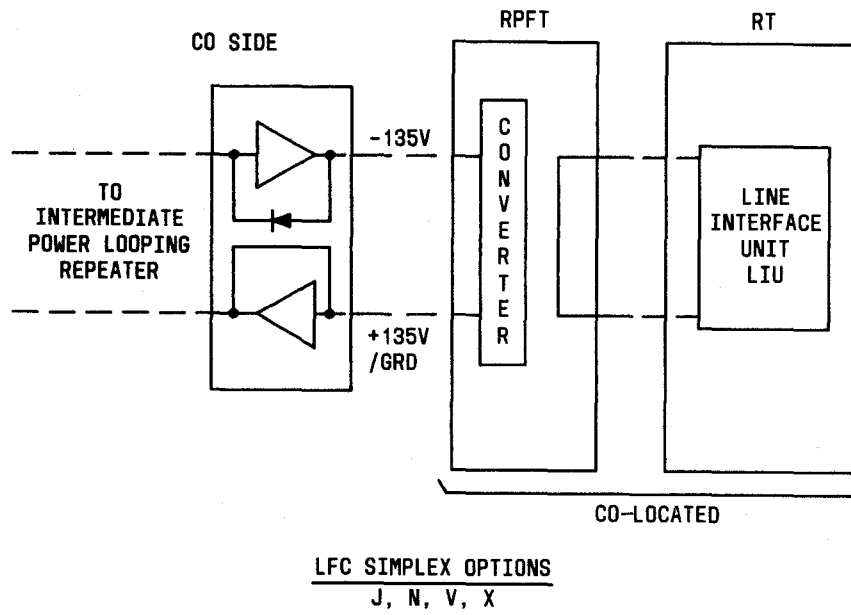
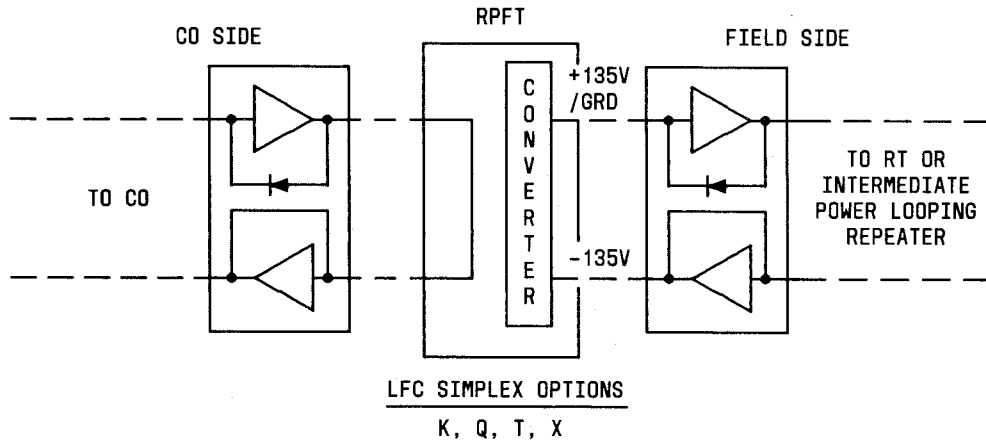
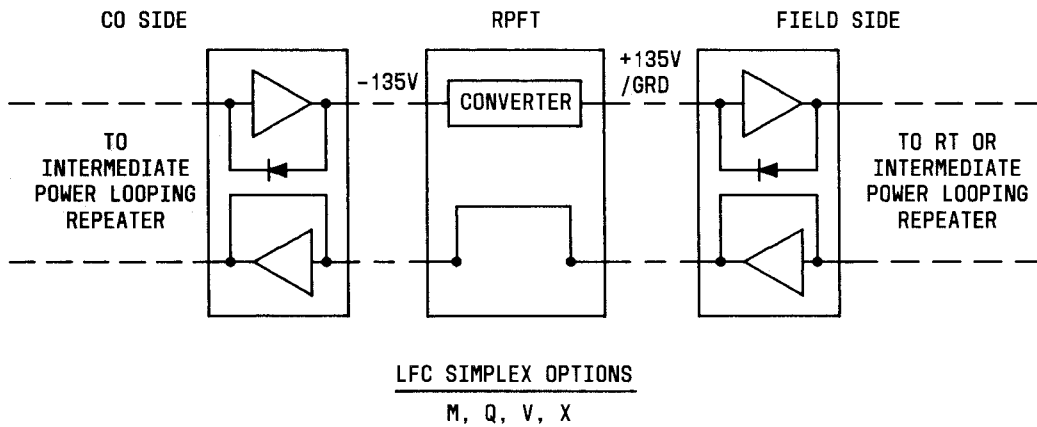
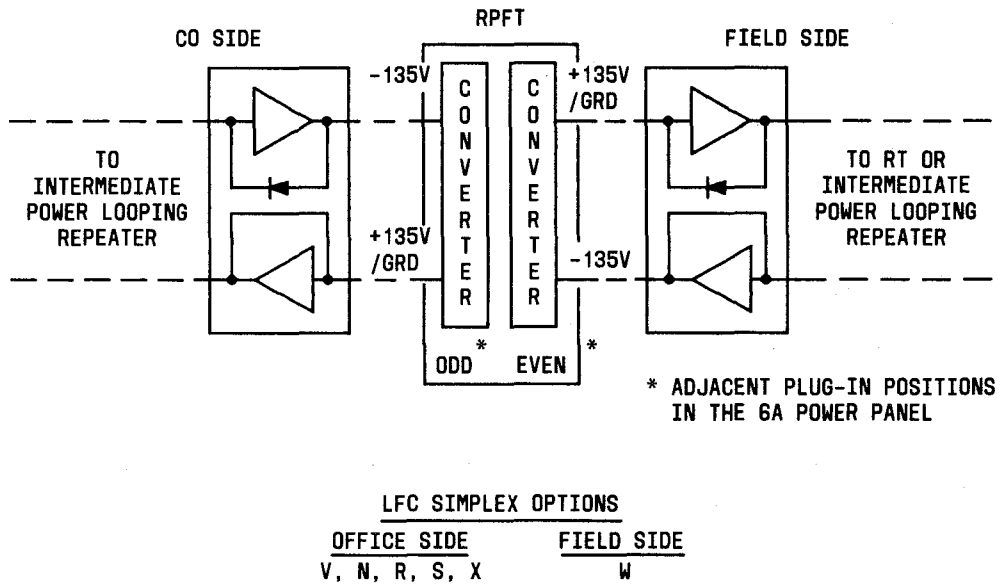

Fig. 10—Typical RPFT Powering Arrangement—LFC Powering Toward CO With RPFT at RT Site
Fig. 12—Typical RPFT Powering Arrangement—LFC Powering Toward RT
Fig. 13—Typical RPFT Powering Arrangement—LFC Powering Toward CO and RT
Fig. 14—Typical RPFT Powering Arrangement—Adjacent LFC Circuit Packs Powering Two Spans on a Single Digital Line
3.06 There are four basic simplex arrangements for the RPFT. A single converter plug-in may power toward the CO with the field side looped (Fig. 10 and 11). A single converter may power toward the field (RT) with the CO side looped (Fig. 12). A single converter may be spliced at some midpoint along a powering span, powering in both directions from the RPFT (Fig. 13). Finally, a pair of adjacent converter plug-ins may be assigned to a single digital line feeding two powering spans, one toward the CO, and one toward the RT (Fig. 14). In all cases, power looping repeaters should be used to isolate powering spans.